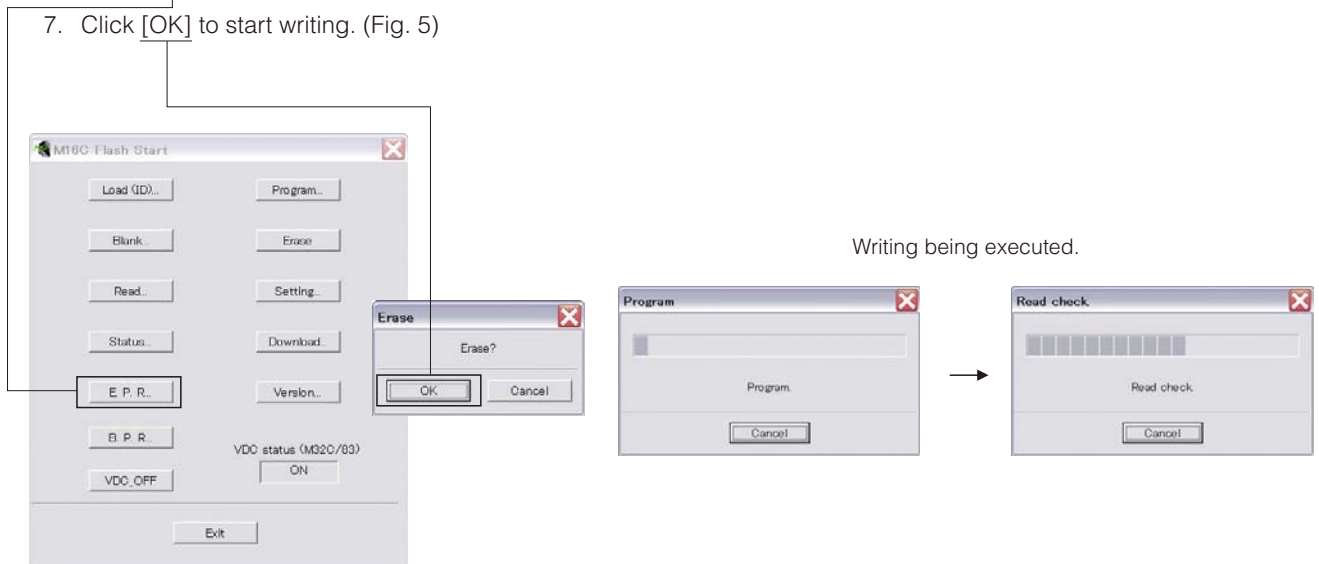

Fig. 5
6. Click [E.P.R.], then the “Erase” screen appears. (Fig. 5)
7. Click [OK] to start writing. (Fig. 5)